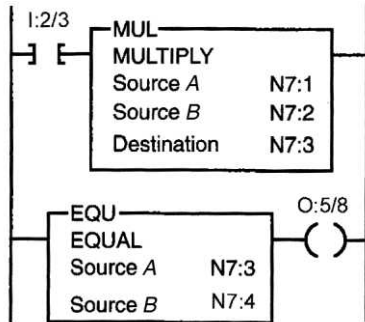

Figure 11-20 Program for question 12.
12. For the program of Figure 11-20, if output O:5/8 is to be energized when the product of the values stored in words N7:1 and N7:2 is equal to 1,520, then the value of the number stored in word N7:4 must be _____.